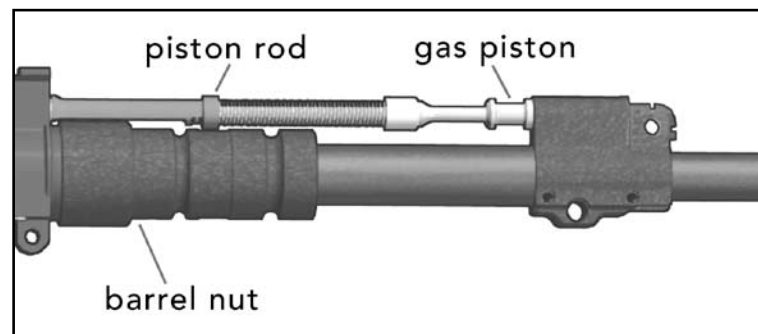

Fig. 56 – Lubrication of the MR762A1 Bolt Carrier Assembly
1. Apply a medium coat of lubricant on the gas piston and operating rod (Fig. 56)